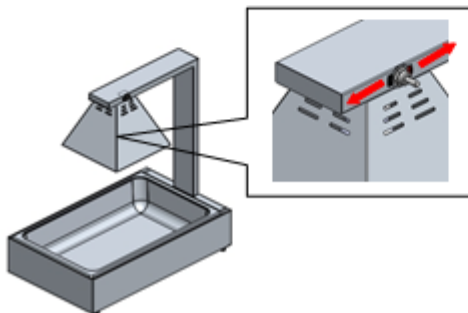

Fig.5
6. Turn the switch to right for on, turn the switch to left for off. [ Fig.5 ]